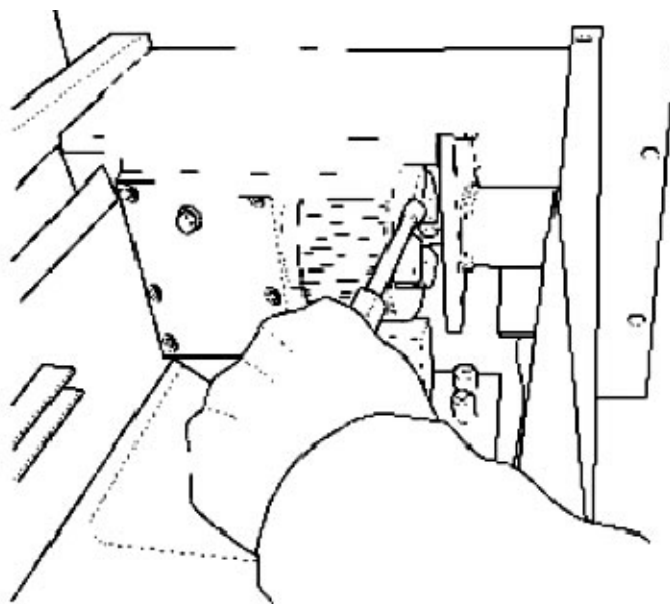

Fig. 5-5 Loosening the coupling
8. See Figure 5-5. Loosen the coupling of the joint near the pulley using a screwdriver.